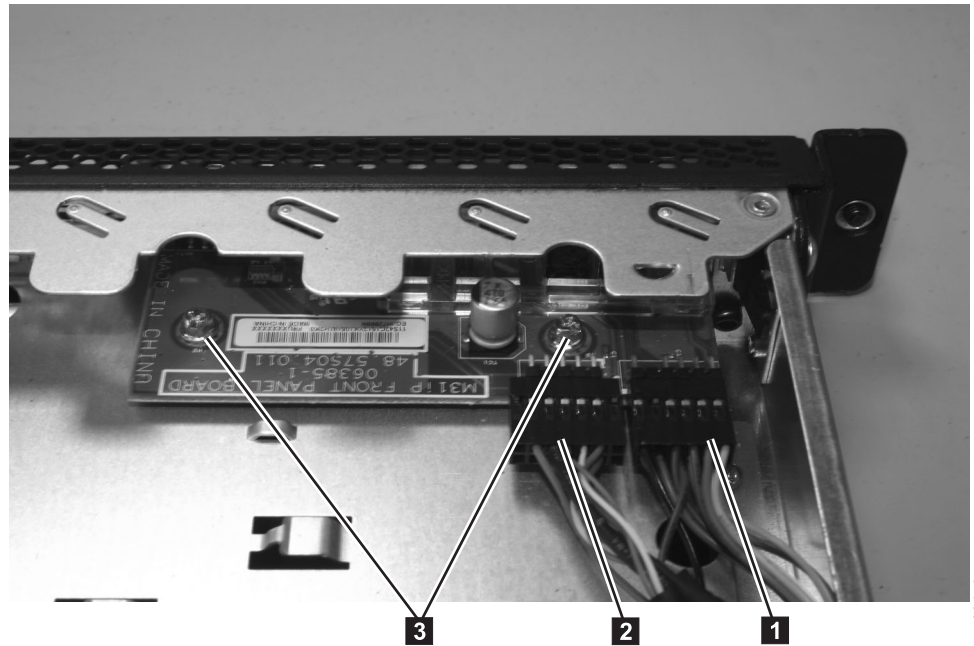

Figure 206. SAN Volume Controller 2145-8A4 operator-information panel
5. Remove the screws (**3** in Figure 206) that secure the operator-information panel to the CD/DVD bay housing.
7. Disconnect the light-panel cable **1** and the USB cable **2** from the operator-information panel board, shown in Figure 206.